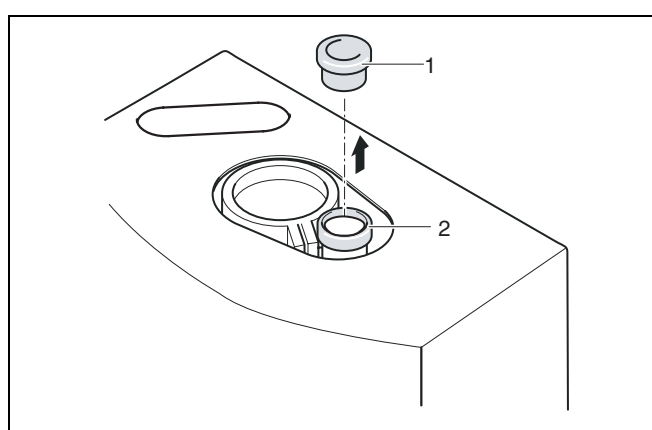

fig. 12 Remove sealing cap on condensate water bypass (applies only to boiler connection pieces made of plastic)
If the flue gas adapter is made of aluminium, the sealing cap (fig. 12, item 1) **MUST NOT** be removed.